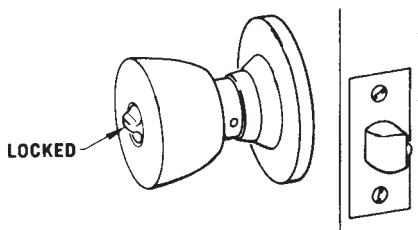

Figure 13.17 Locking exterior knob.
1. Lock the exterior knob (Fig. 13.17).